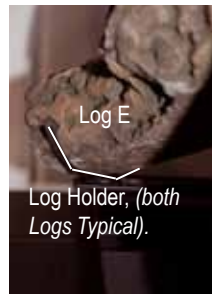

Figure. 11p Place the round end of Log's 'E'. into the Log holders. (Both Logs Typical).
Step 7. Position of the two Logs Labeled "E" in their final Rest position. Place the bottom end of the Log in the Log Holder **Figure 11p** Below. (Both Logs labeled E Typical). Top end of the Logs Flush with Logs labeled 'A', **figure 11q**.